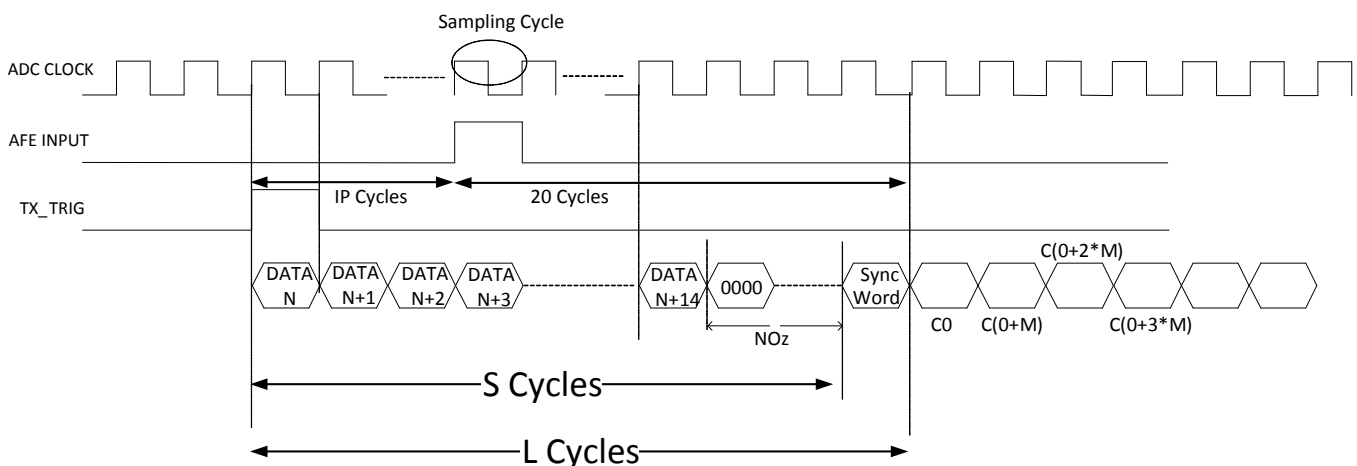

图 96. Measured Latency Timing at Any M
图 96 shows a generic timing diagram. The number of zeros comes before the sync word is equal to Z. The sync word comes after S number of cycles, impulse response starts coming after L number of cycles, and input impulse is given after IP cycles with respect to TX_TRIG signal. Therefore, for different decimation factor (M), values of these numbers are listed in 表 25 and 图 96.